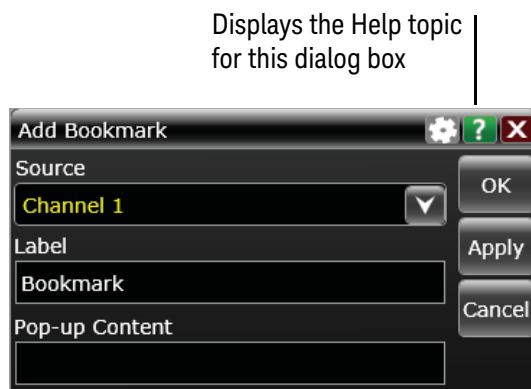

Figure 12 Help button for dialog box help
- Click the question mark near the top right corner of a dialog box to open to the help topic for that dialog box (**Figure 12**).